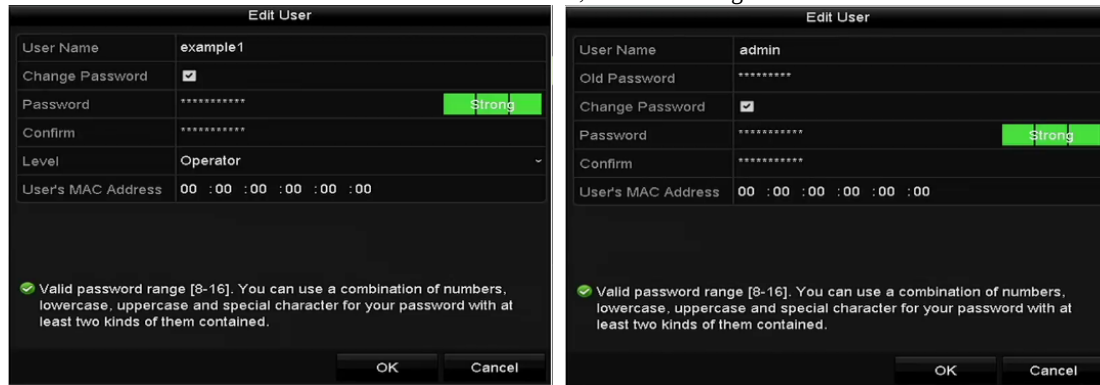

Figure 15. 11 Edit User Interface
3. Click the  icon to enter the **Edit User** interface, as shown in Figure 15. 11.